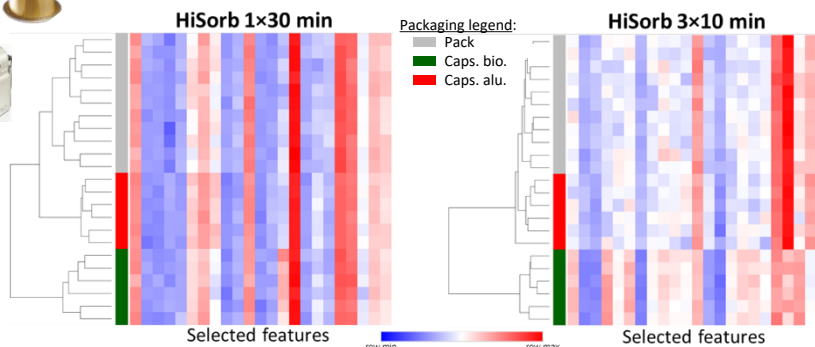

Fig 5. Heatmaps of model selected features for 1 mL coffee extracted 1×30 min (left) or 3×10 min (right) at 60 °C by HiSorb™
- Both 1×30 and 3×10 min extractions allow perfect clustering of packages according to their aroma (Fig. 5).